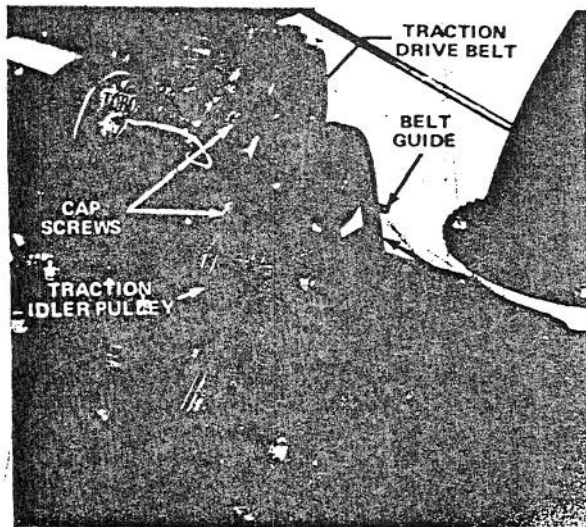

Figure 32
When traction drive belt (Fig. 32) becomes worn, stretched, oil-soaked, or otherwise defective, belt replacement is required.
3. Move auger drive control to DISENGAGE and wheel drive control to N, neutral. Next, remove auger drive belt from engine pulley and large auger/impeller pulley (Fig. 32).
4. Loosen two cap screws (Fig. 32) securing traction idler arm to front of engine. Next, remove traction drive belt from engine pulley and large traction pulley (Fig. 32).
5. Install new belt around large traction pulley (Fig. 32). Next, loop belt over engine pulley, making sure that belt is on inside of traction idler pulley and wire belt guide (Fig. 32).
6. Install new belt around large auger/impeller pulley (Fig. 32). Next, loop belt over engine pulley, making sure that belt is on inside of auger/impeller idler pulley and wire belt retainer (Fig. 32).
When auger/impeller drive belt (Fig. 32) becomes worn, stretched, oil-soaked, or otherwise defective, belt replacement is required.
4. Install new belt around large auger/impeller pulley (Fig. 32). Next, loop belt over engine pulley, making sure that belt is on inside of idler pulley and wire belt guide (Fig. 32).